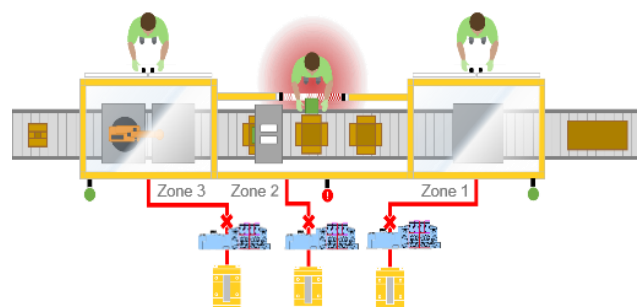

Figure 1: Traditional method
It is worth noting that when used in a continuous cycle fashion as identified below (figure 1), a redundant dump valve's lifecycle capability may not allow the user to achieve the required Performance Level (PL).
With a zoned safety approach, a much simpler design is possible that allows safety operation without the need to dump air to the entire island. Three independent zones within a single valve island with zoned safety capability would independently control the safety function in the three loading stations. The additional manifolds, dump valves, and fieldbus nodes shown in figure 1 would not be required.